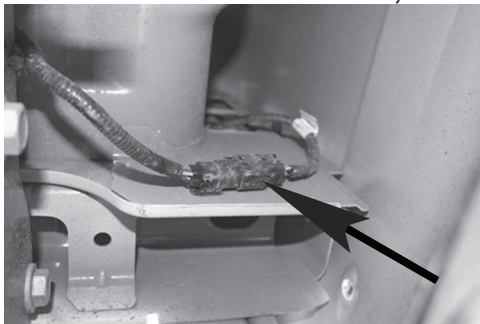

Figure 1
2. Locate vehicle's taillight connectors located underneath vehicle on the frame near bottom of taillight opening shown in **Figure 1** on both sides of the vehicle. The connectors will be similar to those on the RV harness. Slide the Red lock on the connector and carefully separate the vehicle connectors, taking care not to damage the locking tabs. Inspect connectors for dirt and debris and clean if necessary.